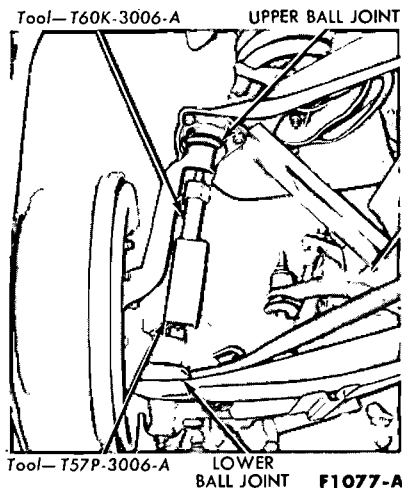

FIG. 4—Locking Upper Ball Joint Stud in Spindle
5. Position the ball joint remover tool as shown in Fig. 4. The tool should seat firmly against the ends of both studs, and not against the lower stud nut. It may be necessary to remove the lower ball joint cotter pin if it prevents the tool from seat-
4. Position the ball joint remover tool, and install the tool shown in Fig. 4 between the upper and lower ball joint studs. **The tool should seat firmly against the ends of both studs and not against the stud nuts.**